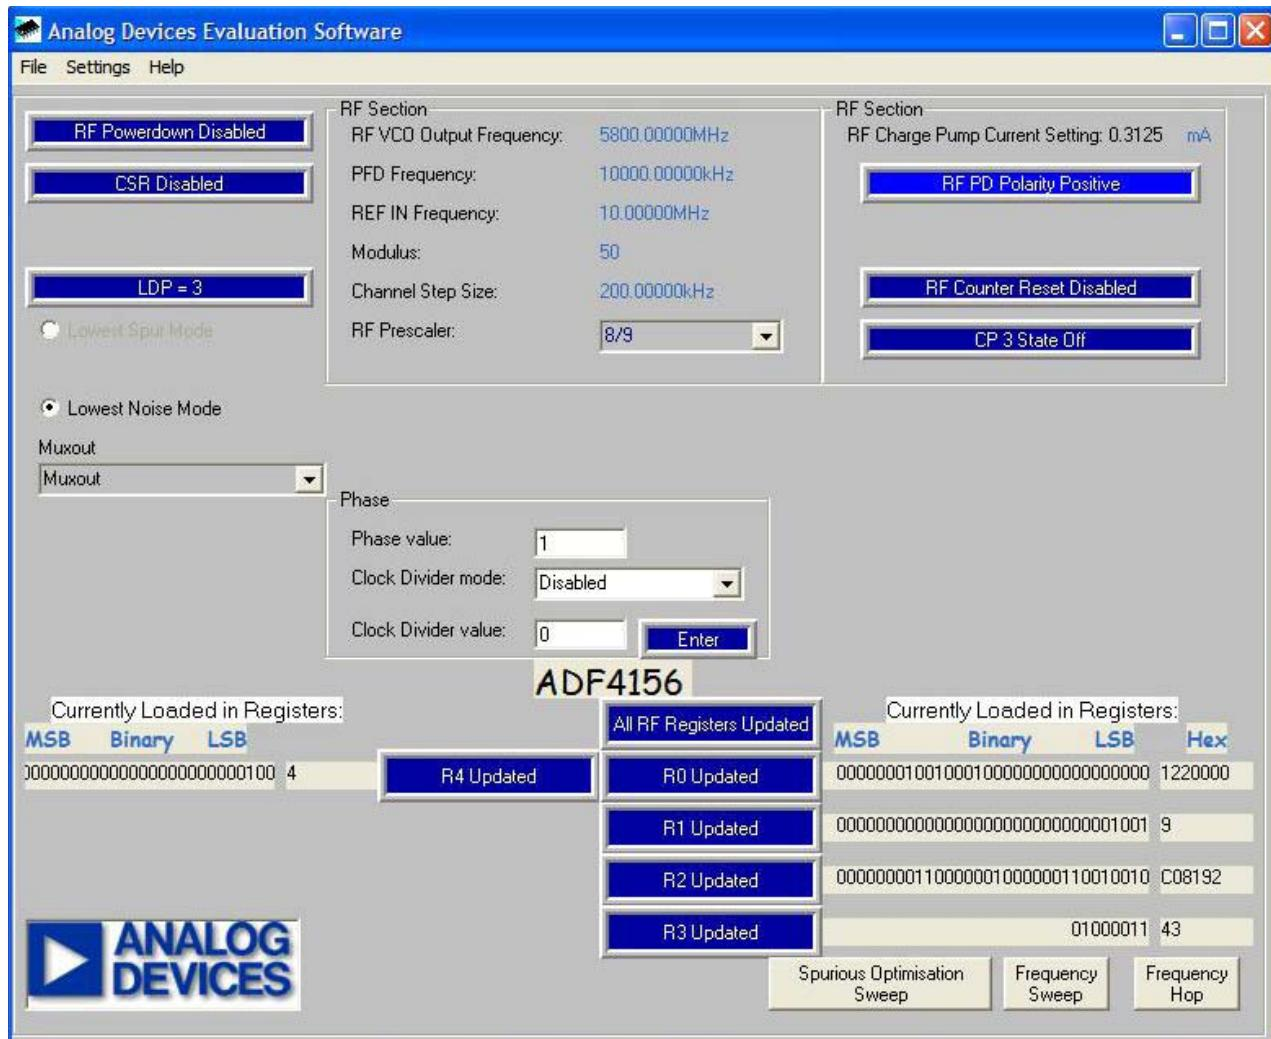

Figure 4. Evaluation Software, Main Window
4. Before the main window appears (see Figure 4), the device window opens, asking you to choose which device is to be evaluated.
When the main window (shown in Figure 4) opens, perform the following tasks:
3. Click **Update All Registers**. The data is now set up. The window should look like Figure 4.